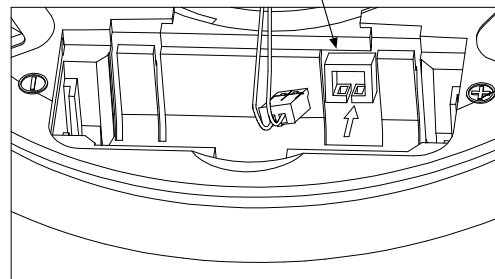

Figure 3b. Battery Connection for CR17450
B. Replace battery (see Figure 3a or Figure 3b according to the battery used).